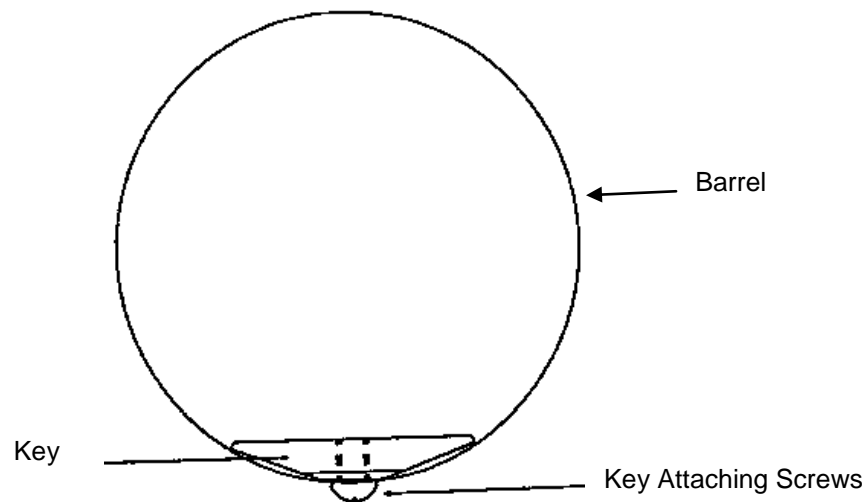

Figure 4.5-3
NOTE: Widest flat dimension on the key must face inward. Refer to Figure 4.5-3.
- a. Slide the barrel over the jaw and into the housing. Make sure that the barrel key is on the bottom, as shown in Figure 4.5-3.